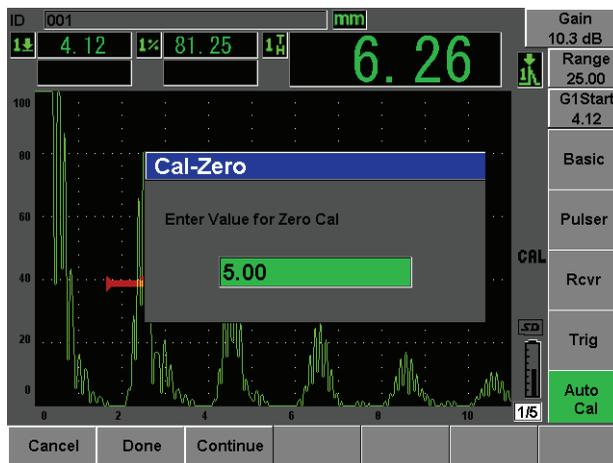

Figure 2-14 The Cal-Zero value
6. Press **Cal-Zero** (see Figure 2-14 on page 44).